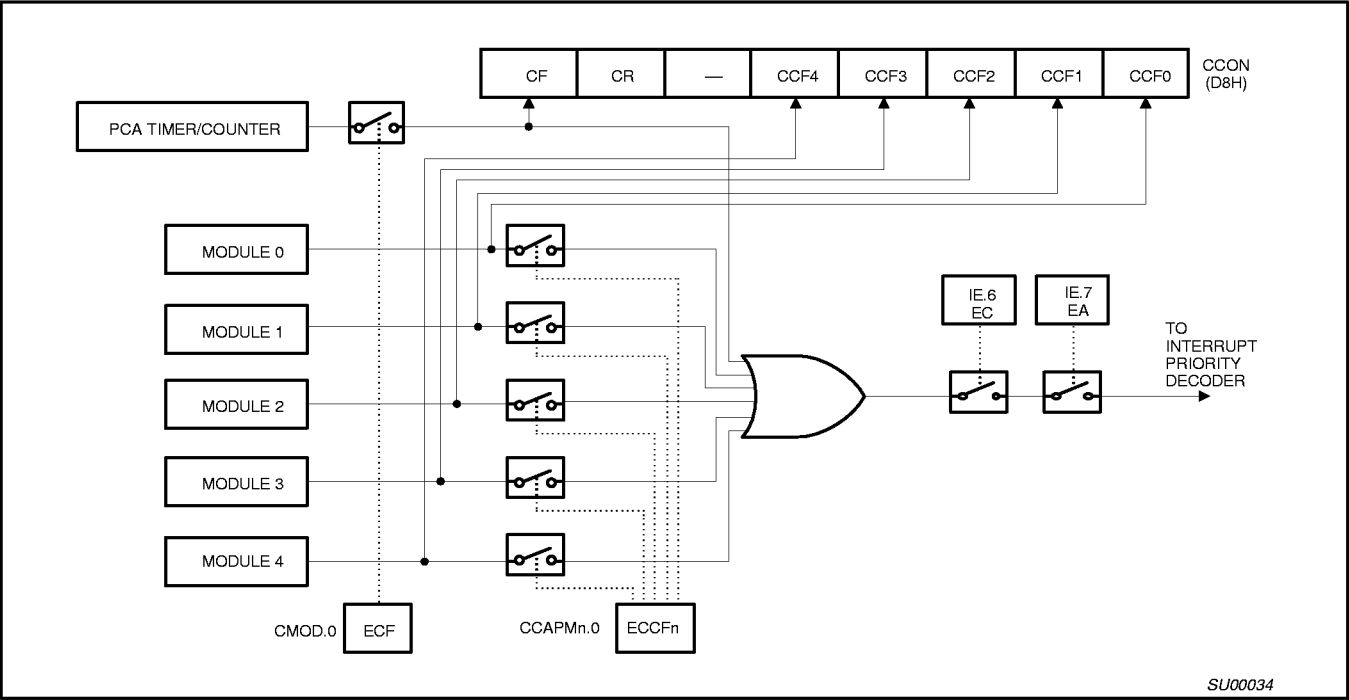

Figure 4. PCA Interrupt System
The CCON SFR contains the run control bit for the PCA and the flags for the PCA timer (CF) and each module (refer to Figure 6). To run the PCA the CR bit (CCON.6) must be set by software. The PCA is shut off by clearing this bit. The CF bit (CCON.7) is set when the PCA counter overflows and an interrupt will be generated if the ECF bit in the CMOD register is set. The CF bit can only be cleared by software. Bits 0 through 4 of the CCON register are the flags for the modules (bit 0 for module 0, bit 1 for module 1, etc.) and are set by hardware when either a match or a capture occurs. These flags also can only be cleared by software. The PCA interrupt system shown in Figure 4.